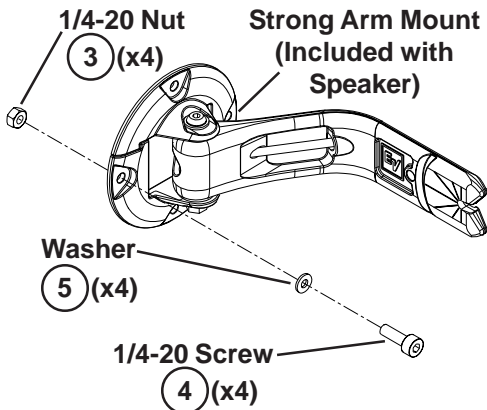

Figure 4a:
2. Insert the (4) 1/4-20 x 3/4" bolts (Item 4) into the (4) washers (Item 5) and Strong Arm Mount (included with loudspeaker). Fasten the (4) lock nuts (Item 3) on the bolt by hand; the nut should be loose (Figure 4a).